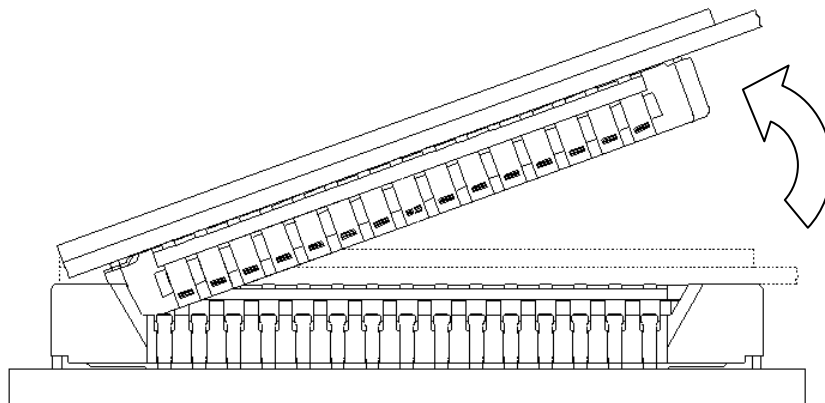

Fig.10 Rotation removing (Pitch direction)
b) 垂直方向への引抜きが難しい場合、ピッチ方向から引き抜いてください(幅方向からの抜去は行わないでください)。(Fig.10) 但し、FPCに十分な剛性が無い場合、コネクタ折れが発生する可能性があります。試作時にご確認ください。
b) In case, difficult to pull out in vertical direction, please pull out in "pitch direction". Do not pull out in width direction. (Fig.10) However, in case FPC doesn't have enough strength, there is a possibility to break Connector. Please check during proto manufacturing build stage.